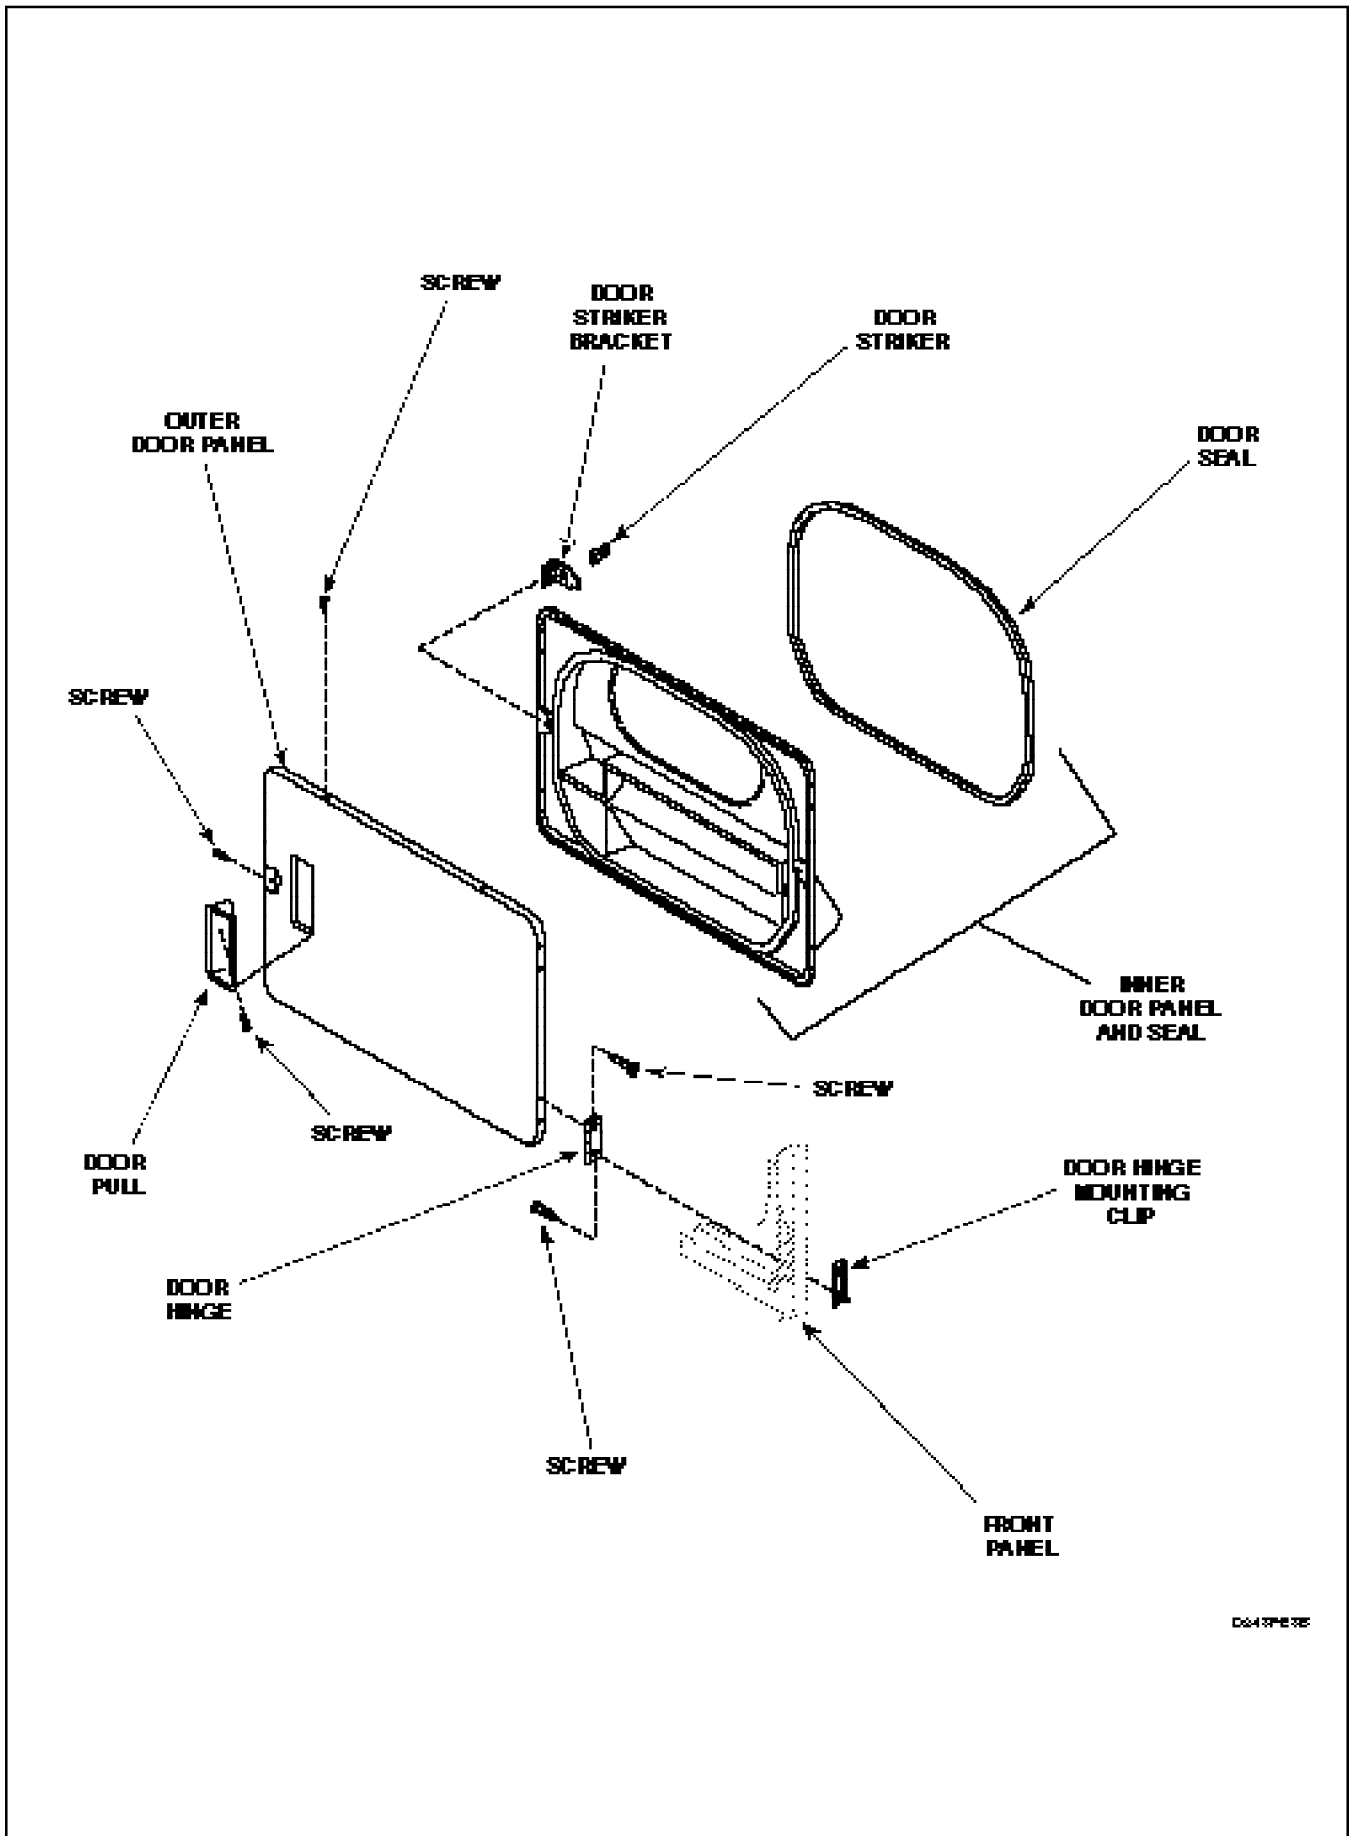

Figure 19
- Remove screw holding door strike and bracket to loading door, *Figure 19*, and remove strike and bracket.